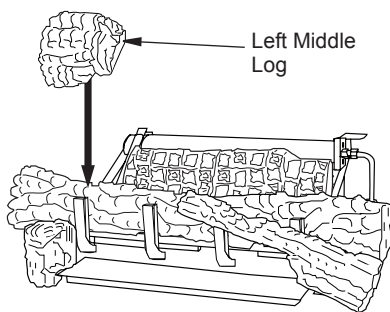

Figure 42 - Installing Left Middle Log
6. The left middle log (18" D-066, 24" & 30" D-040) has a groove on the bottom to sit on the chassis and has to sit on the tab on the back of the left front log as shown in Figure 42.